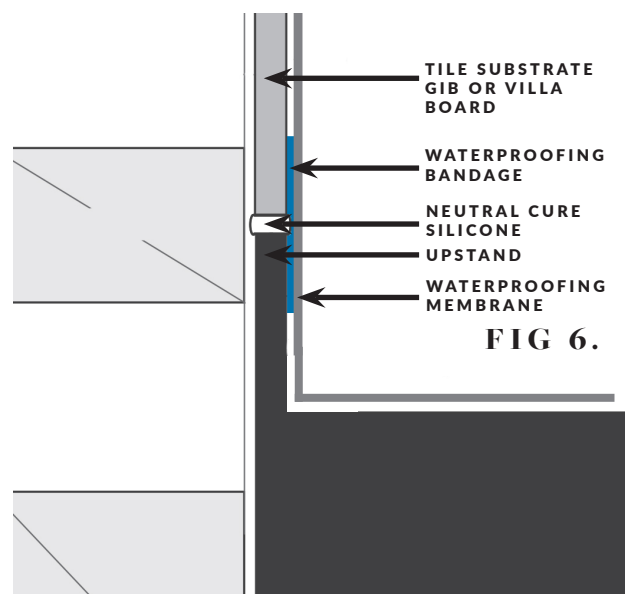

FIG 6.
- Seal between top of upstand and bottom of Gib with silicone, ensuring the inside face of both are flush (FIG 6).